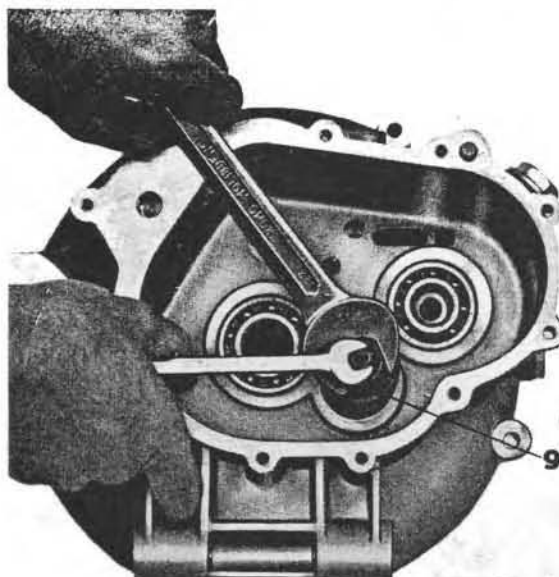

Fig. 84
- Ball bearing for layshaft, using puller No. 12913700 (see 8 on Fig. 84).